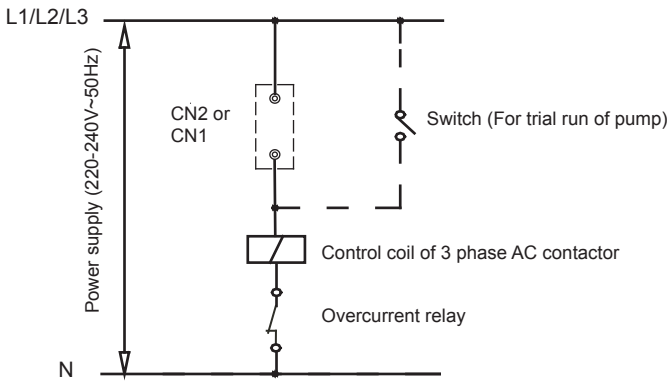

Fig. 8-22-3
- Step 11. MC-SU30-RN1L and MC-SU60-RN1L Connection of control wires of pump: the control wires of AC contactor of pump must pass the connection terminals CN1 or CN2 of the main unit, as shown in Fig. 8-22-3.